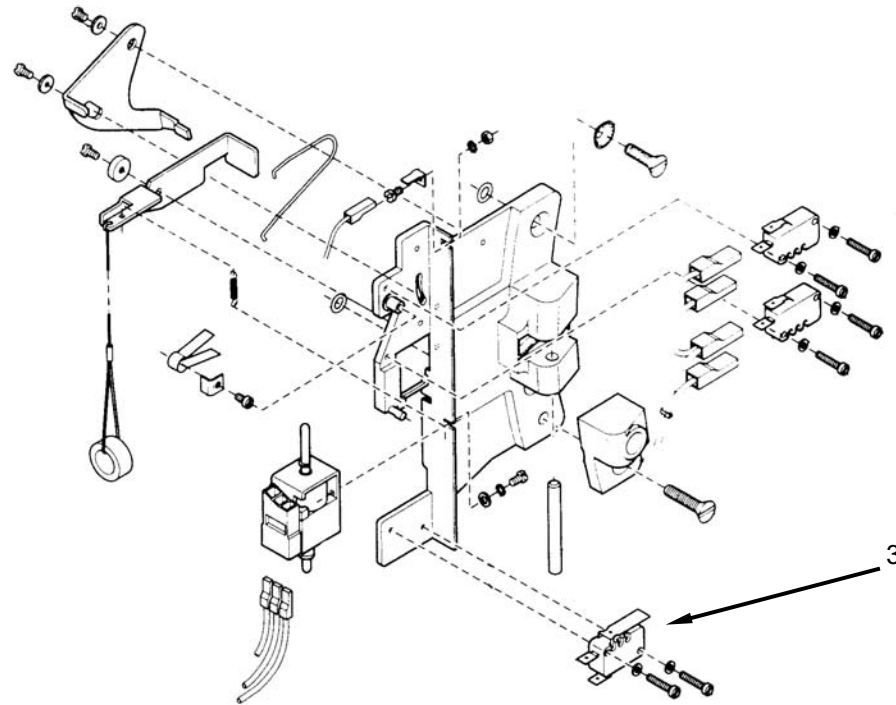

Figure 1. Test the Door Unlocked Switch.
2. Cut the wire ties (**Figure 1, Item 1**) retaining switch wiring to the washer frame. There may be one or two wire ties.
4. Remove screws retaining door strike assembly (**Figure 1, Item 2**), and remove door strike assembly.
5. Tag and disconnect wiring from unlock switch (**Figure 1, Item 3**).
6. Use an ohmmeter to check for 0 resistance when the switch (**Figure 1, Item 3**) is closed.
7. Use an ohmmeter to check for infinite resistance when the switch (**Figure 1, Item 3**) is open. Replace a switch (**Figure 1, Item 3**) which fails either test.
8. Connect wiring to switch (**Figure 1, Item 3**) as tagged.
9. Install door strike assembly (**Figure 1, Item 2**), and retain with screws.
10. Retain wiring with wire tie (**Figure 1, Item 1**).